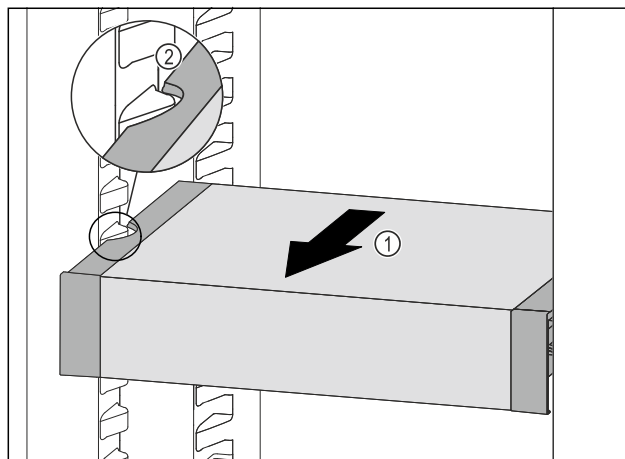

Fig. 146
- Pull VarioSafe forward Fig. 146 (1) until the recesses in the side of the VarioSafe are at the level of the support rib in the refrigerator compartment. Fig. 146 (2)